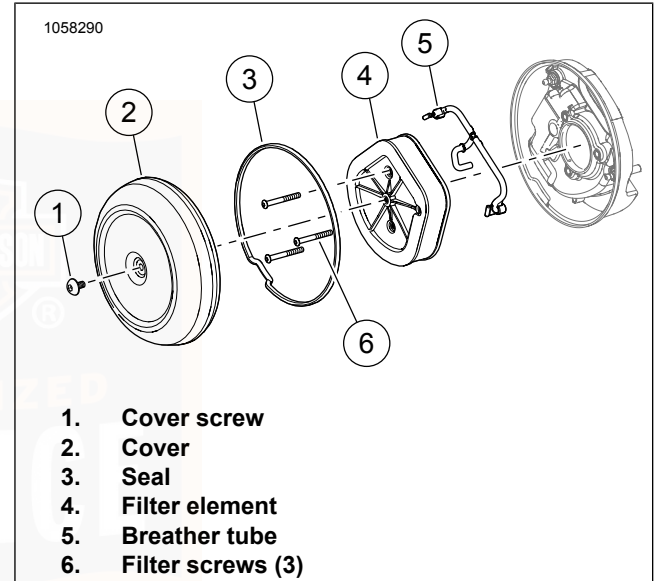
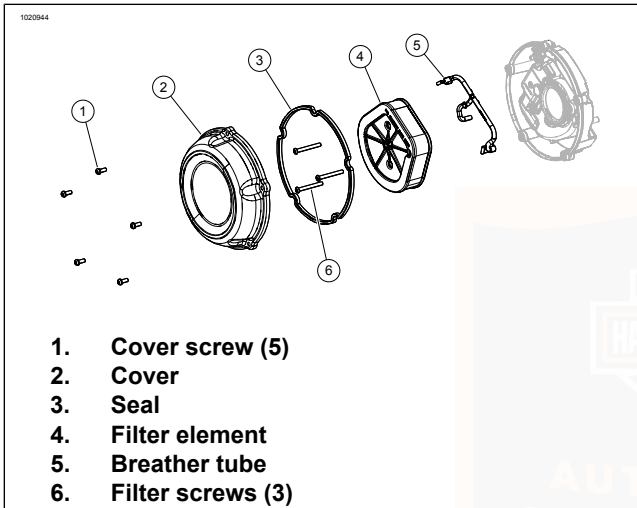

Figure 70. Air Cleaner: Single Screw
Figure 71. Air Cleaner: Five Screw
1. See Figure 70 or Figure 71. Remove air cleaner cover.
- a. Remove screws (1).
- b. Remove cover (2).
- a. Remove screws (6).
- b. Remove filter element (4) while pulling breather tube (5) from element.
3. Remove breather tube (5) from breather bolts.
1. See Figure 70 or Figure 71. Install filter element.
- a. Install breather tube (5) onto breather bolts.
- b. Install filter element (4) while pushing breather tube into element.
- c. Install screws (6). Tighten. **48–72 in-lbs** (5.4–8.1 N·m)
2. Verify that rubber seal (3) is properly seated and not damaged. Replace if necessary.
- a. Apply **LOCTITE 243 MEDIUM STRENGTH THREADLOCKER AND SEALANT (BLUE)** (99642-97) to threads of screw (1).
- b. Install cover (2).
4. Install screw (1).
- b. **Five-screw cover:** Install screws (1). Tighten in a star pattern. **48–72 in-lbs** (5.4–8.1 N·m)